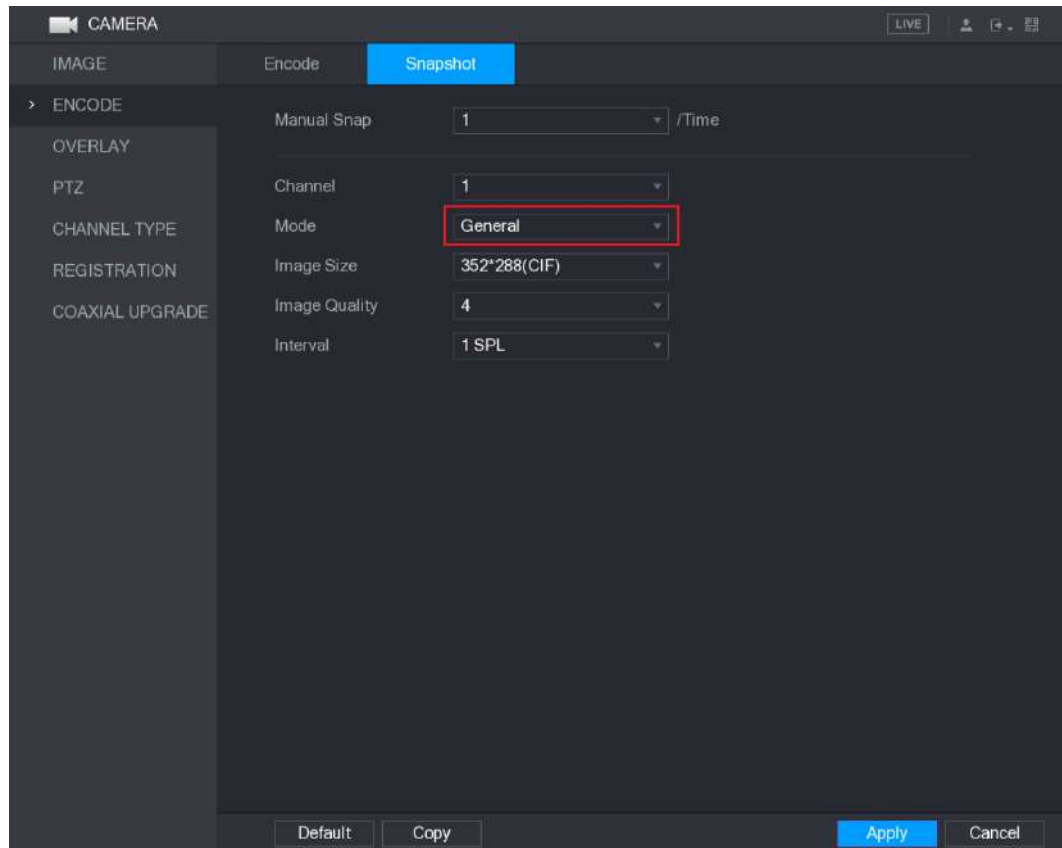

Figure 5-90
- Step 5 In the **Mode** list, select **General**, and then configure other parameters. See Figure 5-90.